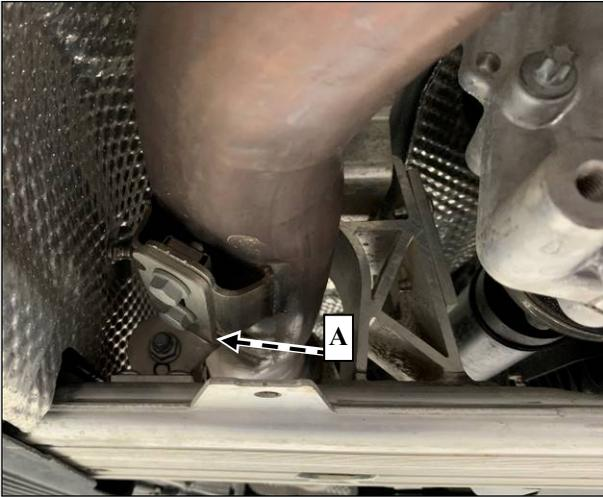

Figure 1 (left)
2. Replace bracket (A) with rubber mount on left and right of exhaust system at transmission crossbeam (figures 1 and 2).